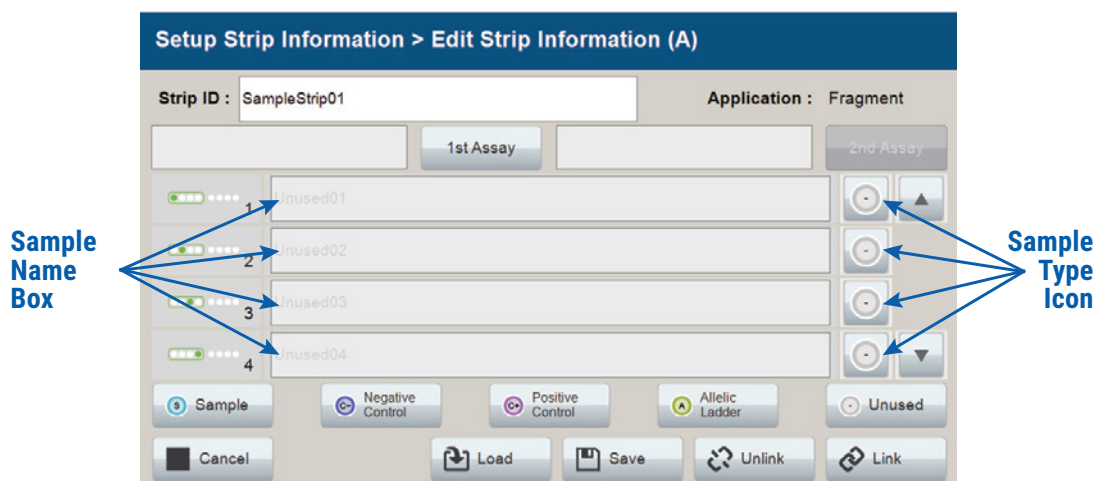
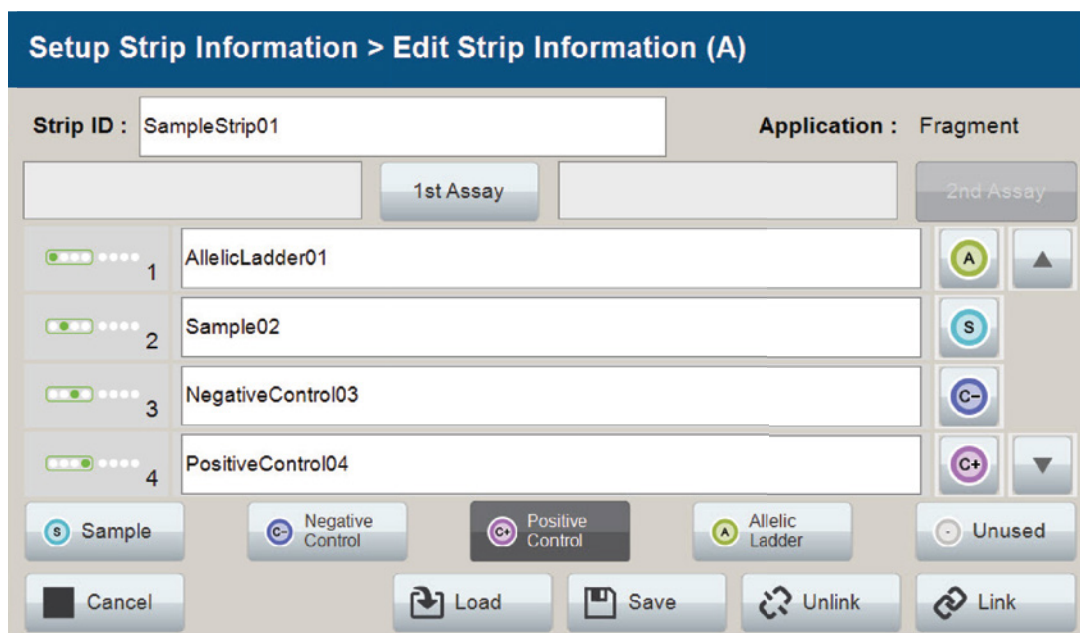
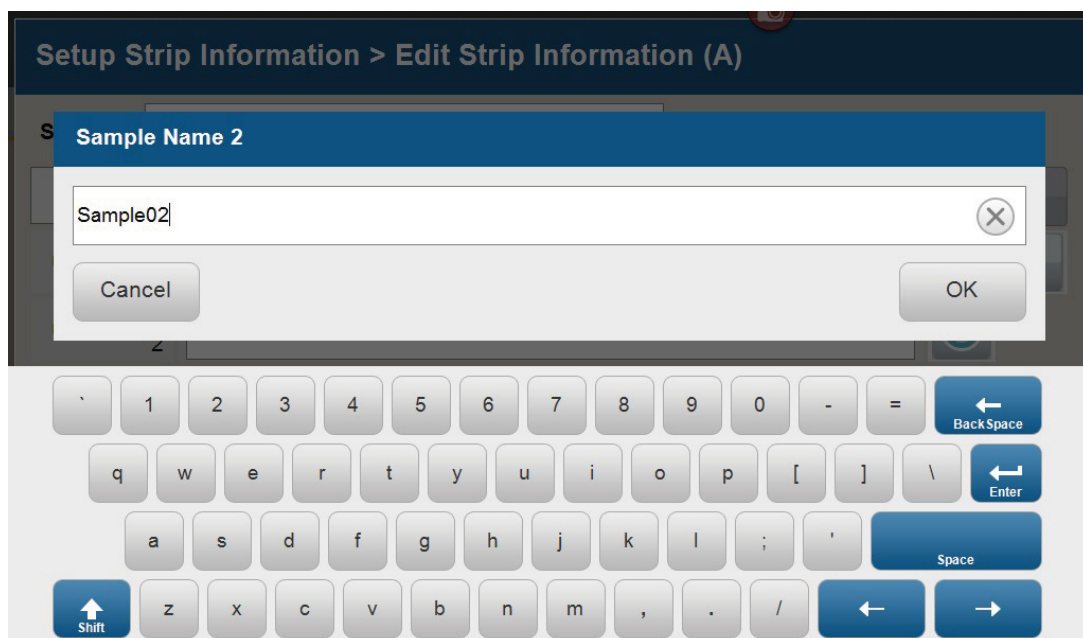
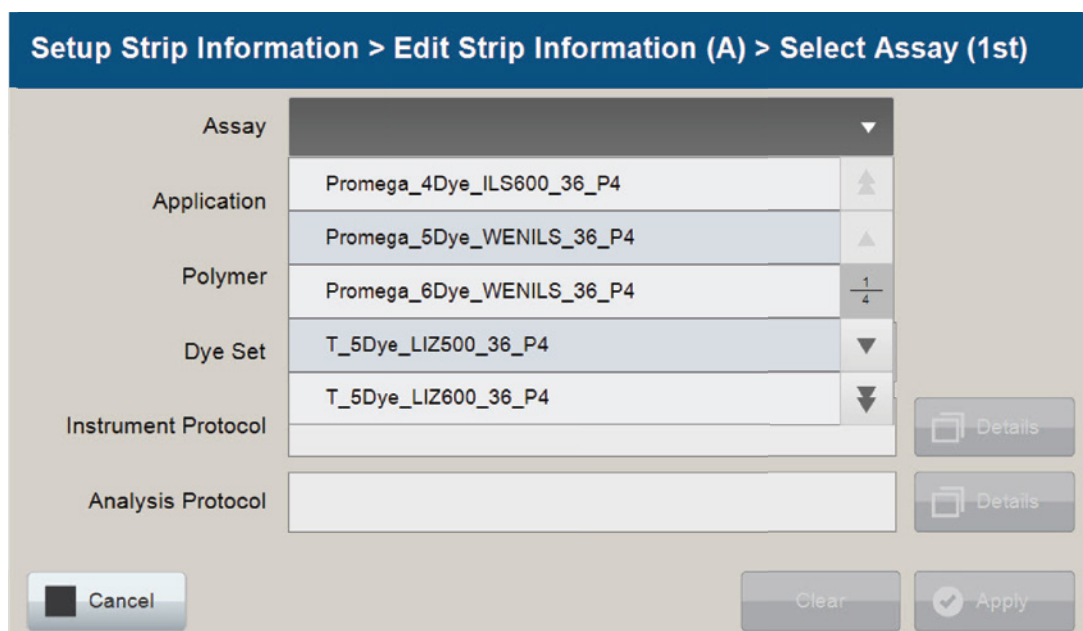

Figure 12. Sample Type and Sample Name on 'Edit Strip Information' screen.
Figure 13. Sample Name Entry on 'Edit Strip Information' screen.
Figure 14. 'Set Sample Name' window.
Figure 15. 'Select Assay' window.
4. Select a sample type on the 'Edit Strip Information' screen (Figure 12). Sample types must be selected for each well position before the **Sample Name** box becomes active for entry of sample name. Sample types are as follows.
5. To assign a sample type to a well, select the appropriate sample type along the bottom of the 'Edit Strip Information' screen (Figure 12), and then select the **Sample Type** icon to the right of the sample name field for the desired well. This icon will then display the sample type selected for that well (Figure 13).
6. Enter a sample name for each well position by selecting the **Sample Name** box adjacent to the well number on the 'Edit Strip Information' screen (Figure 13). This opens the 'Set Sample Name' window and a keypad will become active on the touch screen (Figure 14). Alternatively, the Sample Name can be entered using a traditional keyboard if one is connected to the Spectrum Compact CE System. Enter the appropriate sample name, and then select **OK** to exit and return to the 'Edit Strip Information' screen.
7. The Spectrum Compact Control Software includes pre-loaded run assays for use with chemistries available from Promega. Refer to the *Spectrum Compact CE System Operating Manual* #TMD058 for information on creating or modifying assays. To assign a run assay to an injection set, select **1st Assay** on the right side of the '1st Assay' field (Figure 13). This opens the 'Select Assay' window (Figure 15). Select 'Promega_5Dye_WENILS_36_P4' from the drop-down list (Figure 15) and then select **Apply**.